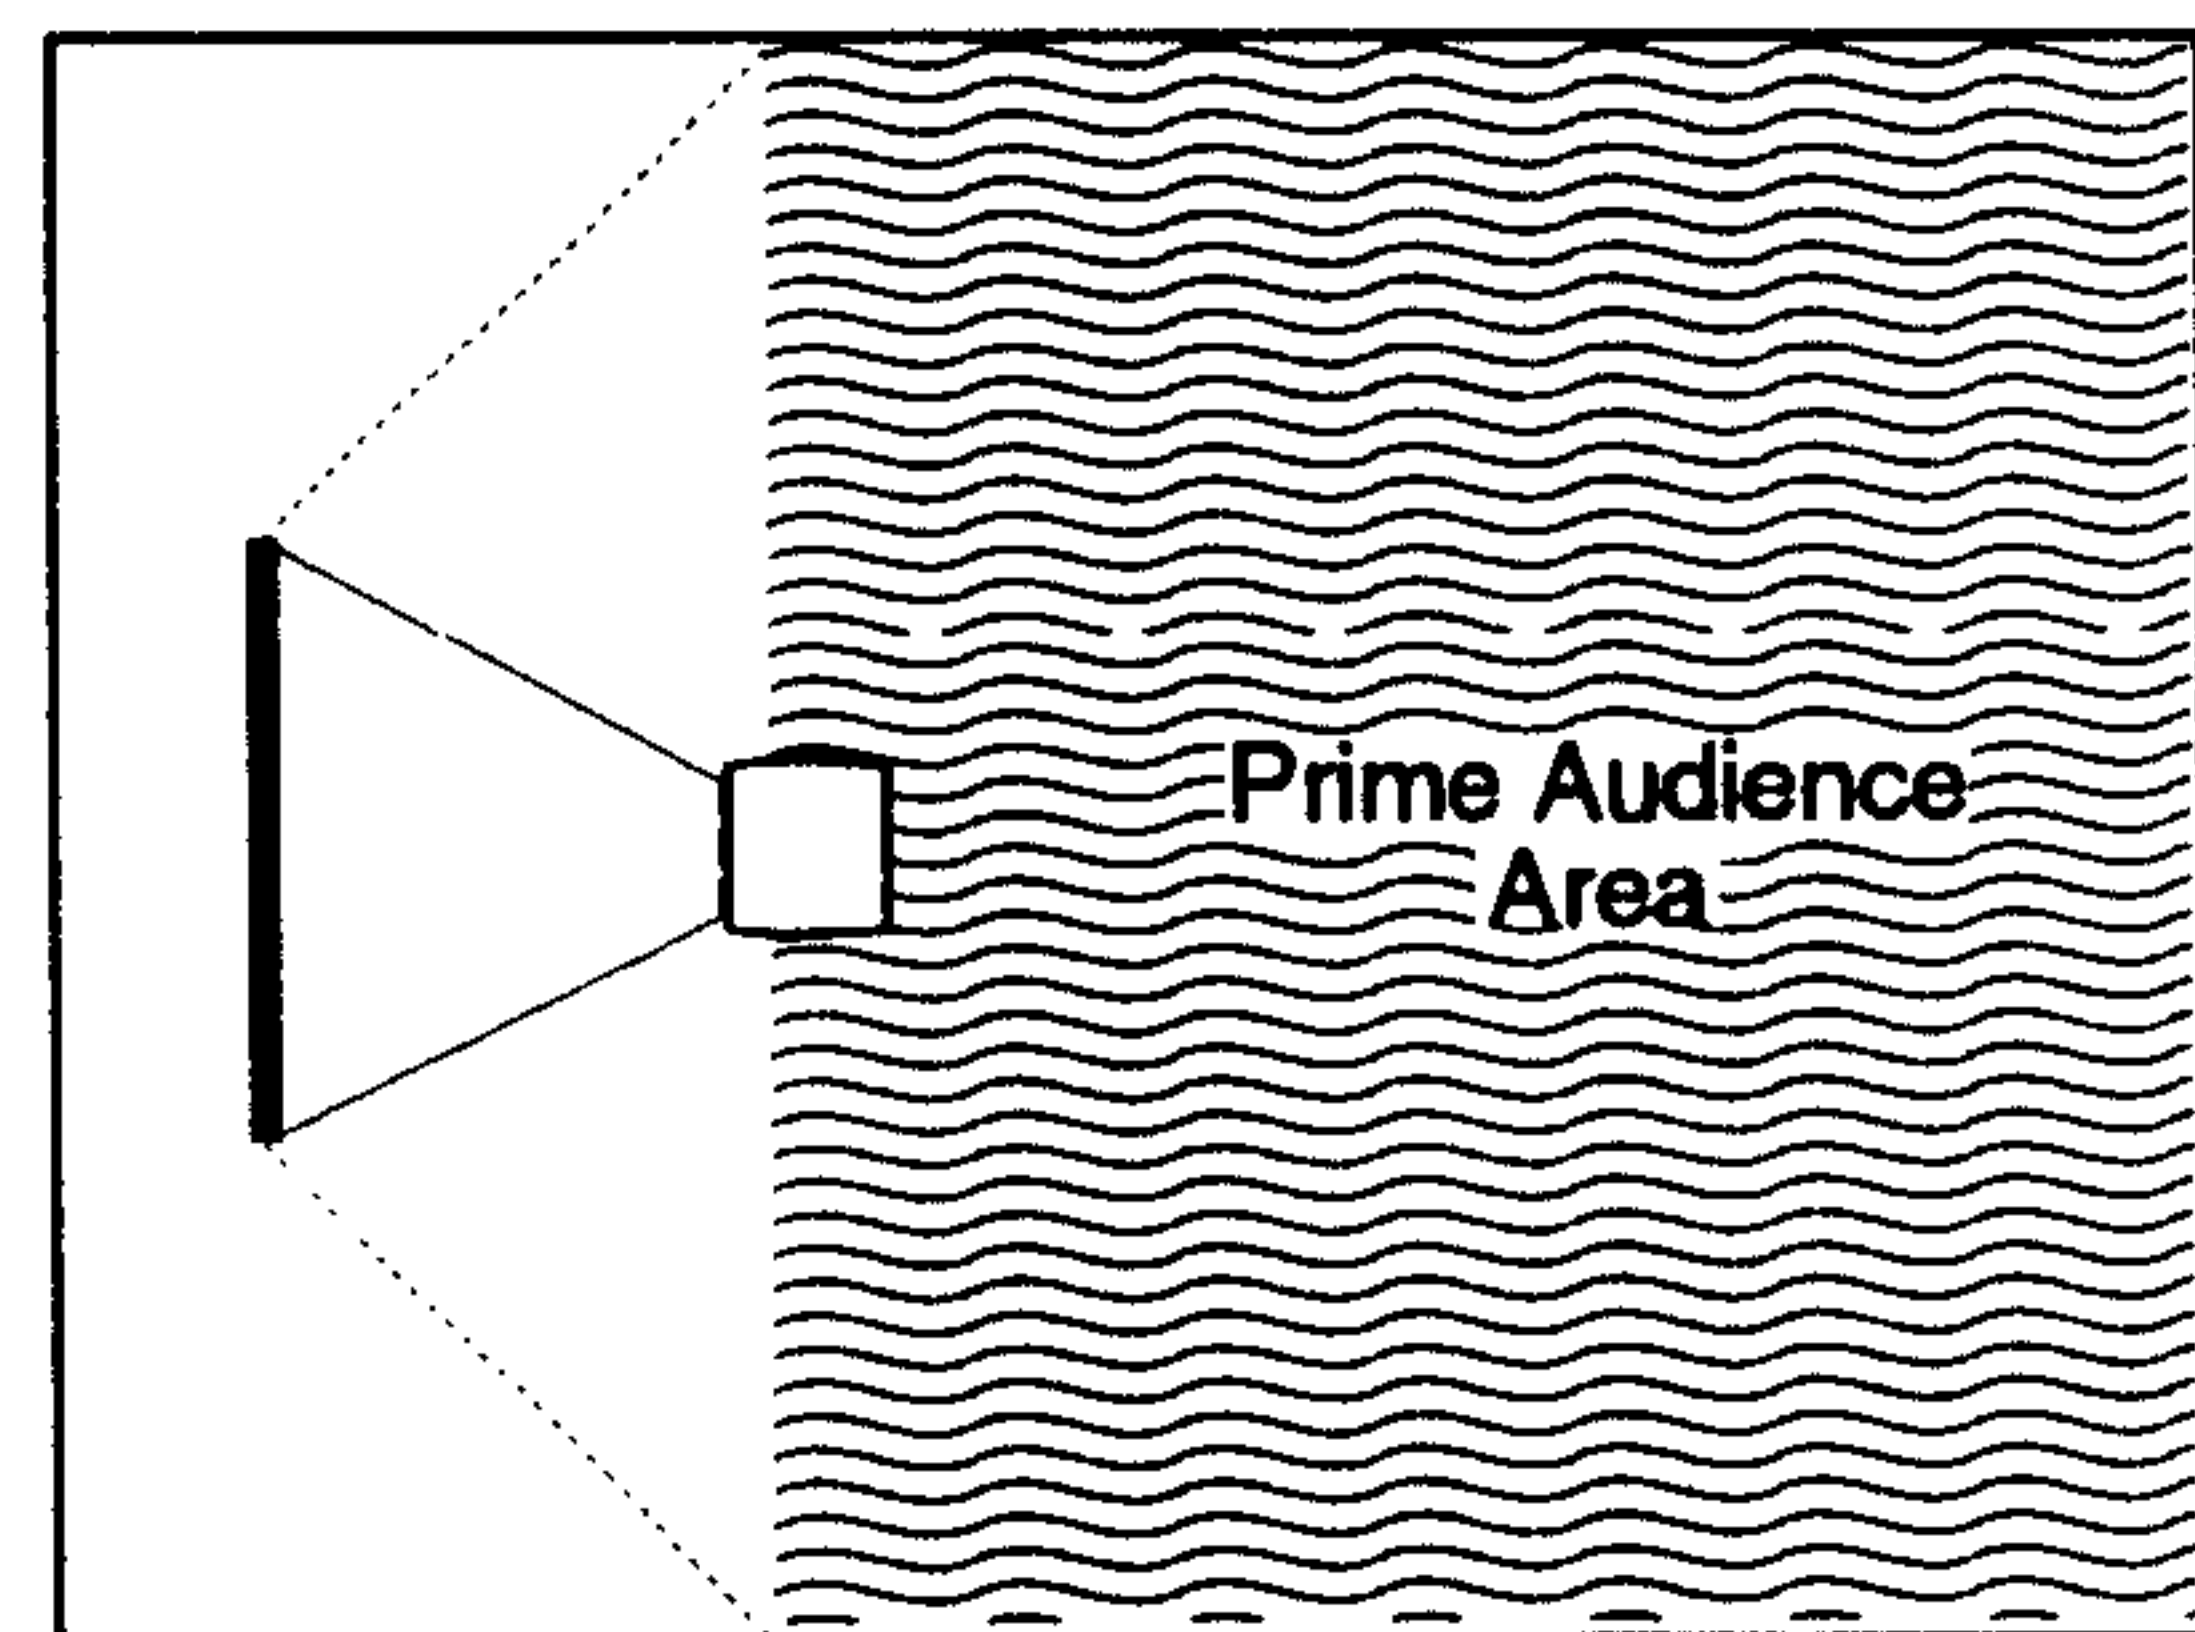

Figure 2-5. Screen Locations for Maximum Audience Coverage
- ❑ When laying out your projection room, consider positioning the projector and screen in a manner which will achieve maximum audience coverage and space efficiency. For example, placing the screen along the larger wall in a rectangular room will reduce audience coverage. Figure 2-5 shows two examples of how audience coverage is maximized.